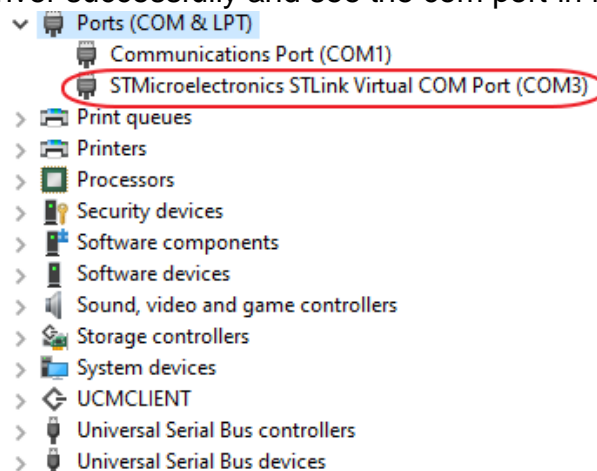

Figure 10: COM information
Step2: Install the driver successfully and see the com port in figure 10: